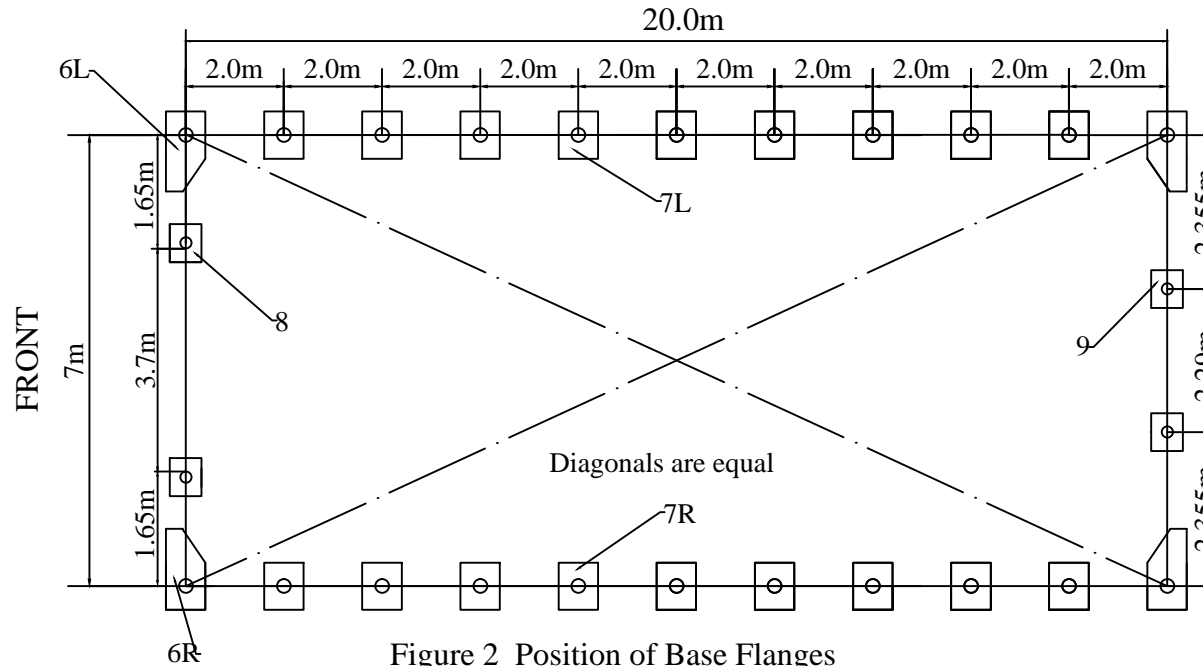

Figure 2 Position of Base Flanges
Begin by determining exact location of the four (4) corners of the building. Mark front edge and side-to-side width of assembly on ground. Drive alignment stakes into the ground outside of the markings, and draw alignment strings along both ends and sides of the building to the dimensions shown in Figure 2. The outline of the strings will represent the final location of the base flanges. The initial location of each Corner Base Flanges(part #6L&6R) is critical to the alignment and fit of the frame components and cover.
Locate the Left Corner Base Flange and Right Corner Base Flange(part #6L&6R). Secure the base flanges with Stake Pegs (Part #23). Measurements shown in Figure 2 are to the center of the upright sockets on each Base Flange.